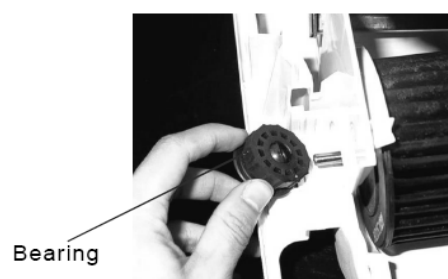

Fig 14
3. After removing the bearing (refer to fig14), indoor fan can be taken out from the left side.